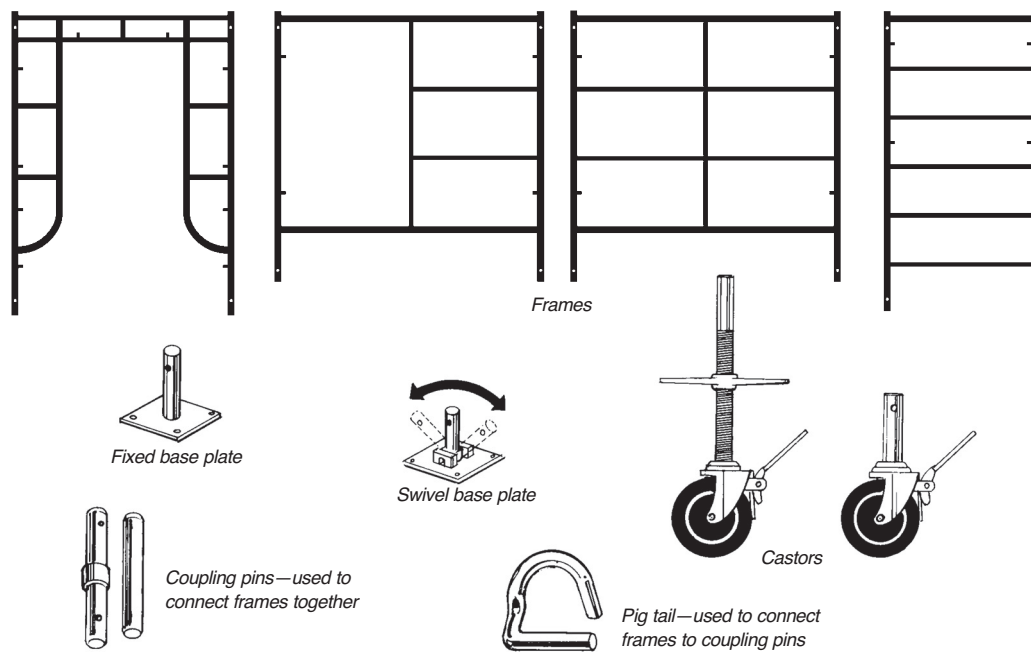

Figure 5.1
**Tubular Frame Scaffolds:** There are many tubular frame scaffold components available (Figures 5.1, 5.2). Some components are necessary in almost all situations; others are optional depending on use and manufacturers' instructions. In addition to scaffold end frames, the minimum components required are